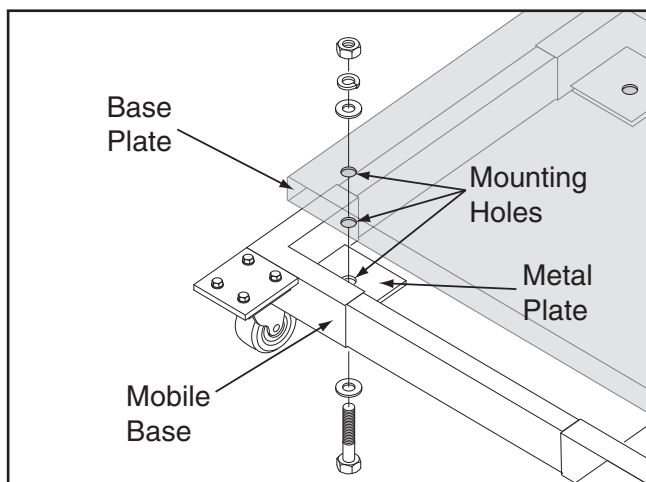

Figure 22. Mounting base plate to mobile base.
6. Secure the base plate to the mobile base with hex bolts, hex nuts, flat washers and lock washers, as shown in **Figure 22**.